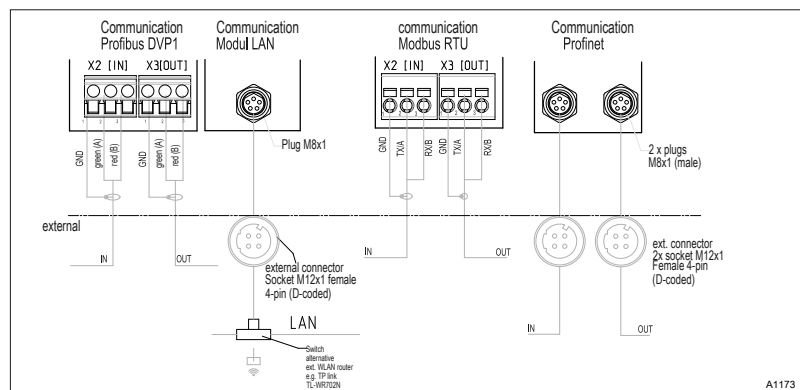

Fig. 1: Terminal diagram for the DAC communication unit (module B, optional)
1. ➤ Connect the PROFINET® to the DAC communication unit, Fig. 1.